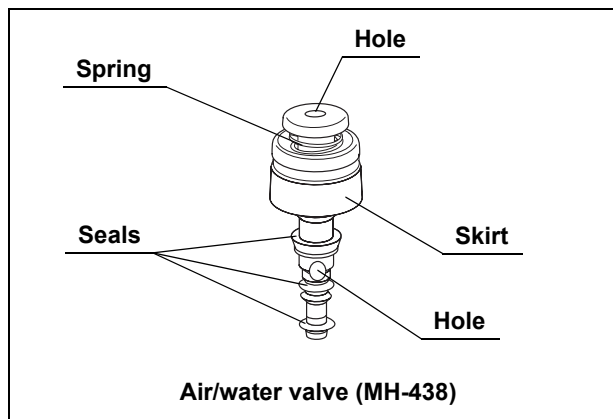

Figure 3.8
Confirm that the top hole of the air/water valve is not blocked (see Figure 3.8). If the hole is blocked, air is fed continuously and patient pain, bleeding and/or perforation can result.
1. Confirm that the holes of the valves are not blocked (see Figures 3.8 and 3.9).
2. Confirm that the valves are not deformed or cracked (see Figures 3.8 and 3.9).
3. Check for excessive scratching or tears in the air/water valve's seals (see Figure 3.8).